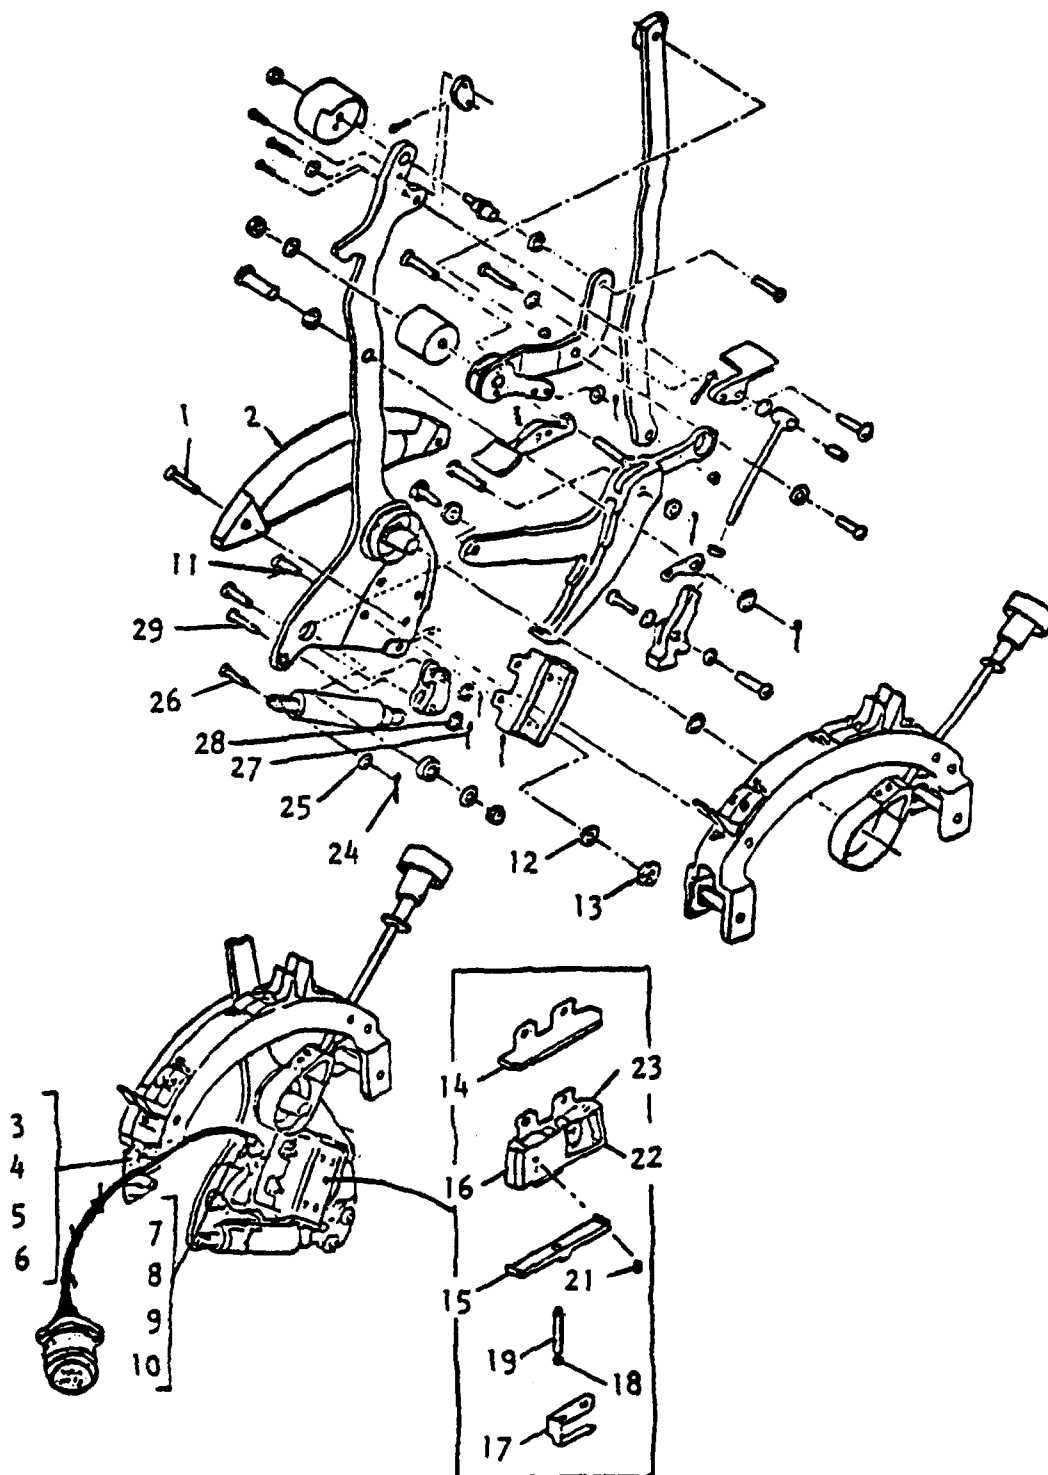

Figure 202 - Switch And/Or Actuating Arm Replacement
2. Operation. To select reverse thrust, the main throttles are first retarded to the idle stops. Then, by squeezing the auxiliary (reverse) lever latches, the reverse levers may be raised until they contact the lockout panels. At this position the reverse levers are restrained from advancing engine power until the reversers are fully deployed. Simultaneously with raising the reverse levers, electrical circuits are completed through the limit switch assembly on the main throttle lever to several system components which cause the reverser to deploy (see Figure 202). As the reverser reaches full deploy, circuitry is complete through the deploy signal switch to energize and retract the lock-out solenoids which now allows the reverse levers to be moved further aft. This action advances the engine N1 RPM from "Reverse Idle" (65-percent N1) to any desired reverse thrust level with 97.5-percent N1 being "Max Reverse Thrust". When reverse thrust is no longer required, the reversers may be stowed by pushing the reverse levers completely down to re-engage the reverse lever latches. This action completes circuitry through the main throttle limit switch assembly to system components to drive the reverser to stow.
- (1) Remove throttle assemblies from center pedestal per Paragraph 2.A.
- (2) Using Figure 202 as a guide for disassembly, remove screws (1) and separate plate (2) from the quadrant for the affected throttle assembly.
- (3) Separate affected throttle assembly from friction lock and carefully turn it over to expose inboard side.
- (4) Cut the solenoid wires just as they enter the potted area located above the forward end of the switch housing (16).
- (5) Remove cotter keys (24 & 27), washers (25 & 28), clevis pins (26 & 29) and remove solenoid from throttle assembly.
- (4) Remove nuts (3 & 9), washers (4 & 8), screws (5 & 7) and separate clamps (6 & 10) from the electrical harness.
- (5) Remove nuts (13), washers (12), screws (11) and separate switch assembly with actuator arm (17) from throttle assembly.
- (6) Separate plates (14 & 15) along with plunger assembly (18 & 19) from switch housing (16). DO NOT remove screw (18) from plunger (19) unless required because of damage or wear.
- (7) Remove the four screws (21) and separate the switch actuating arms (22) and switches (23) from the housing (16).